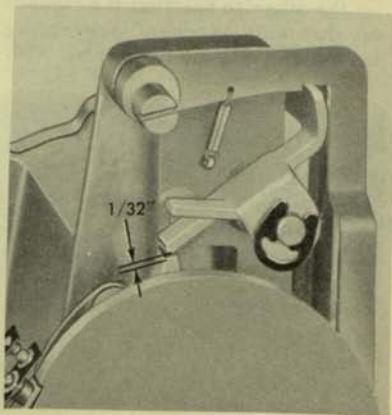

Figure 7
7. The dog stop, when latched on its latch, should have approximately $1/32''$ unlatching clearance to both dogs (Figure 7).